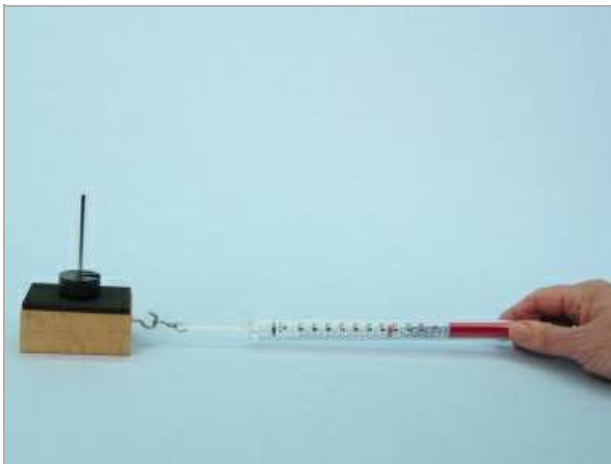

Fig. 5
- Load the friction block with 50 g (slip the mass piece onto the holding pin) and read off the frictional force F_f again (Fig. 5). Record the value in Table 2.